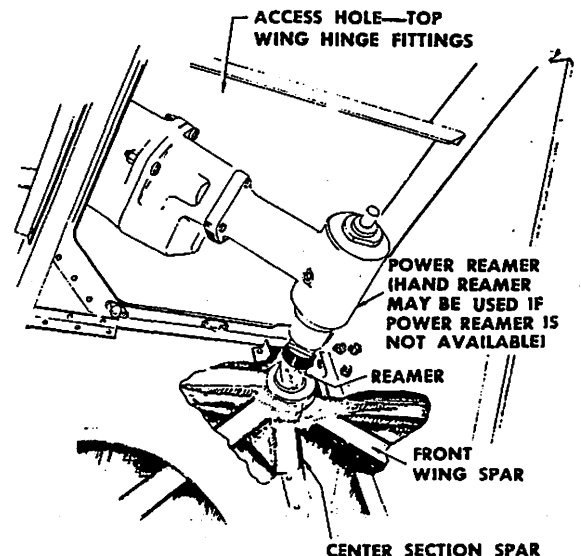

Figure 2-16. Reaming Center Section Truss Fittings
2. The air-driven "Power Vane" is preferred to operate the reamer (figure 2-16). A steady pressure is applied to feed the reamer into the work. However, hand methods, using an extension handle on a hand ratchet wrench, with the proper adapter to fit the reamer, will suffice if a "Power Vane" is not available.